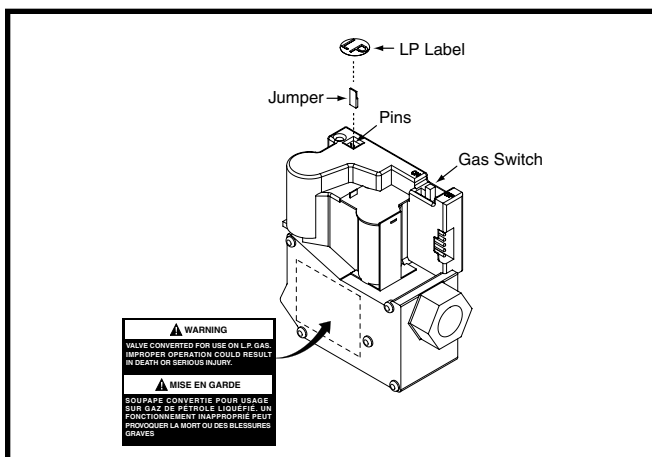

Figure 2. Modulating Gas Valve and Jumper
- l. Reconnect the gas piping to the gas valve inlet (4).
- m. Reconnect the wiring harness (2) to the gas valve.
- a. Move the gas switch (Figure 2, page 3) on the gas valve to the OFF position.
- d. Move the gas switch (Figure 2) to the ON position.